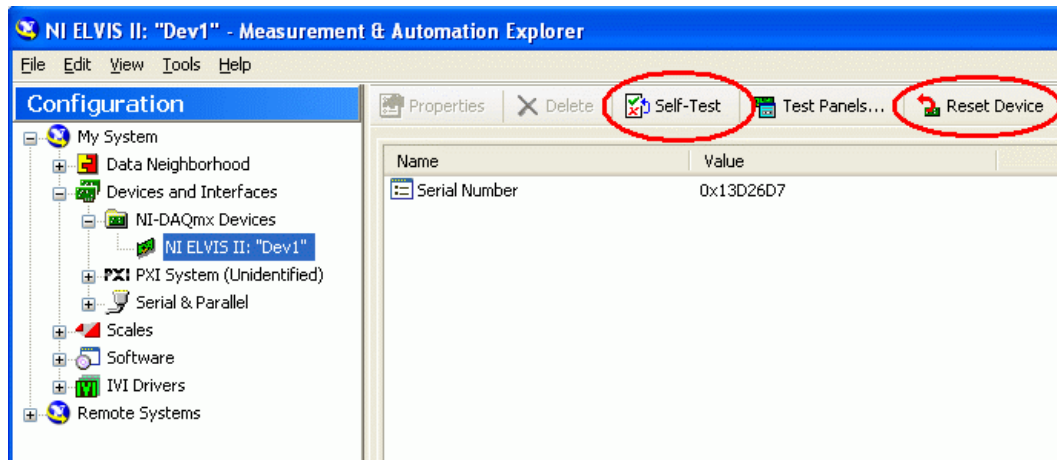

Figure 8.16: Resetting and performing the self-test on the ELVIS II
3. As illustrated in Figure 8.16, expand the *Devices and Interfaces* and *NI-DAQmx Devices* items and select the NI ELVIS II device.
4. As shown in Figure 8.16, click on the *Reset Device* button.